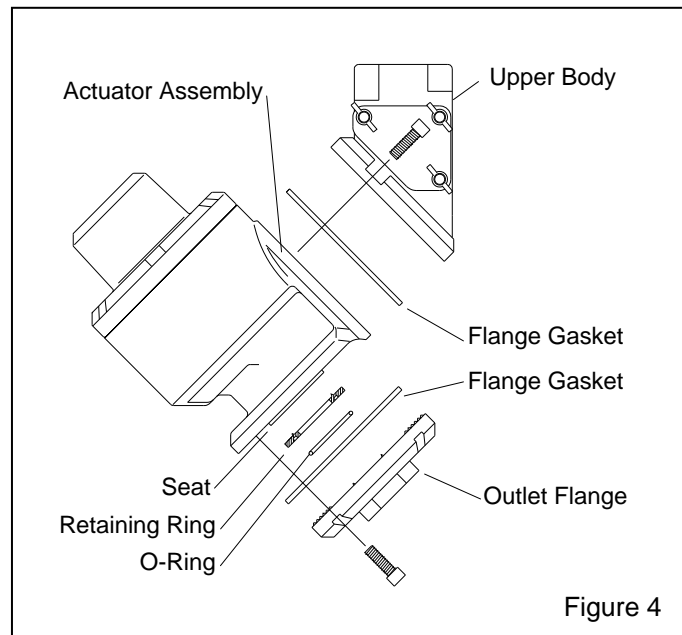

Figure 4
**4.2 Actuator Segment, Ref. Figures 4 and 5**
**4.2.3** Refer to Figure 4 and remove the screws securing the upper body and the outlet flange to the valve actuator assembly, and then remove the actuator assembly. Both of the flange gaskets, plus the retaining ring, and o-ring will be loose as the actuator assembly is removed. Do not misplace them.